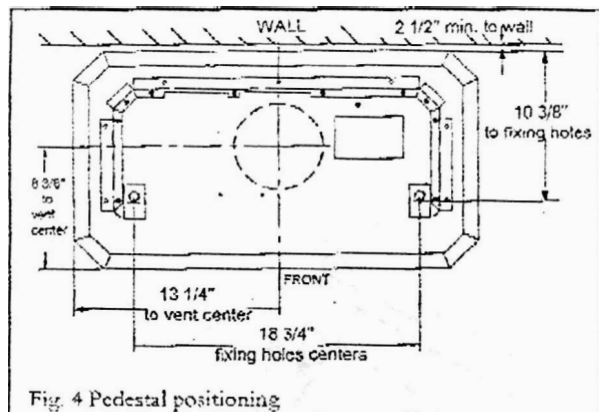

Fig. 4 Pedestal positioning
- 8.1.2 Place the pedestal in position (see figure 4). The bottom rear of the pedestal must be at least 2 1/2" from the back wall to maintain the 2" rear clearance shown in figure 1.
- 8.1.3 Mark the floor with the floor fixing positions through the holes in the pedestal (see figure 4).